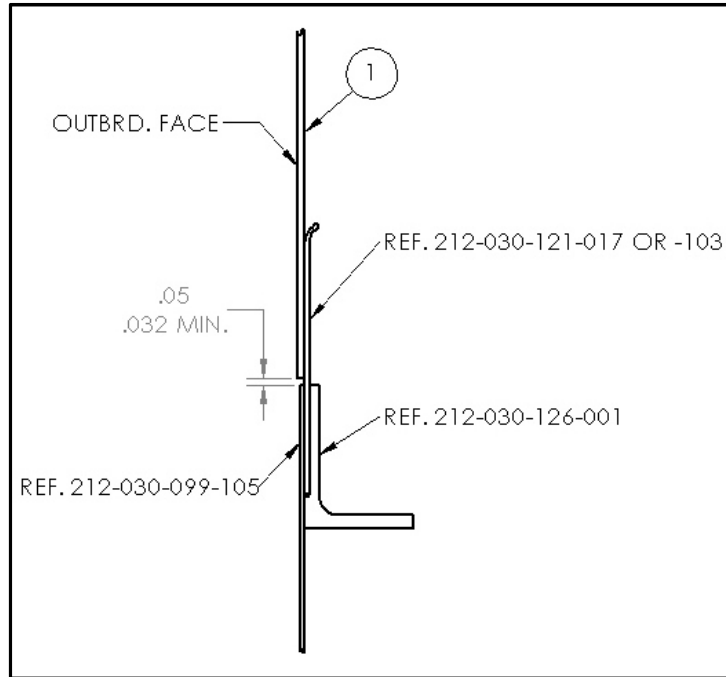

Figure 2
**4.10** Install the cover (1) with hinge pins (4) & (5) and lock studs (7), press down firmly across the entire top edge of the fin cover to remove any fastener play and check for the required clearance between the lower edge of the cover (1) and upper edge of the skin P/N 212-030-099-105 per figure 2. Ensure there is 0.032" minimum clearance between the lower edge of the cover (1) and the upper edge of the skin P/N 212-030-099-105, trim cover (1) by sanding as necessary maintaining a 0.400" stud (7) hole minimum edge distance and deburr with abrasive cloth 320 grit or finer. When trimming cover (1) and the above minimum tolerances will be exceeded, it may be necessary to trim the skin P/N 212-030-099-105 upper edge.